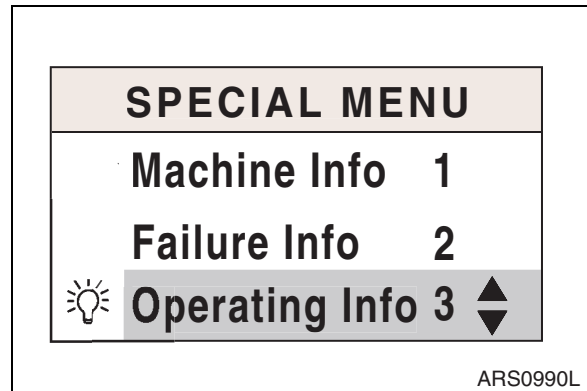
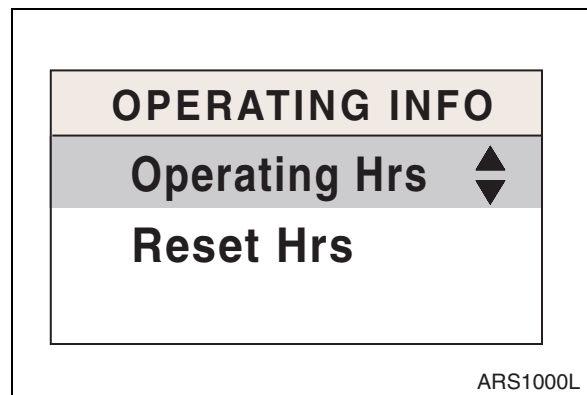

Figure 38
Figure 39
- A. Entering Sub-menus: When a cursor is located in "Operating Info" of special menu screen (Figure 38) press enter button (↵, 3 on Figure 19) and "Operating Info" screen will be displayed (Figure 39).
- B. Information screen of machine operation (Figure 39).